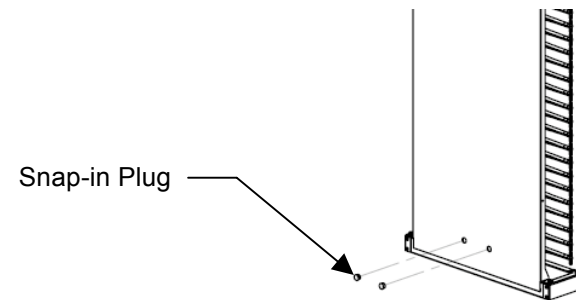

Figure 3
5. Secure the Side Panel with the Snap-in hardware provided to the two lower cable manager's side mounting holes. Snap-in plugs install from the outside only. See Figure 3.